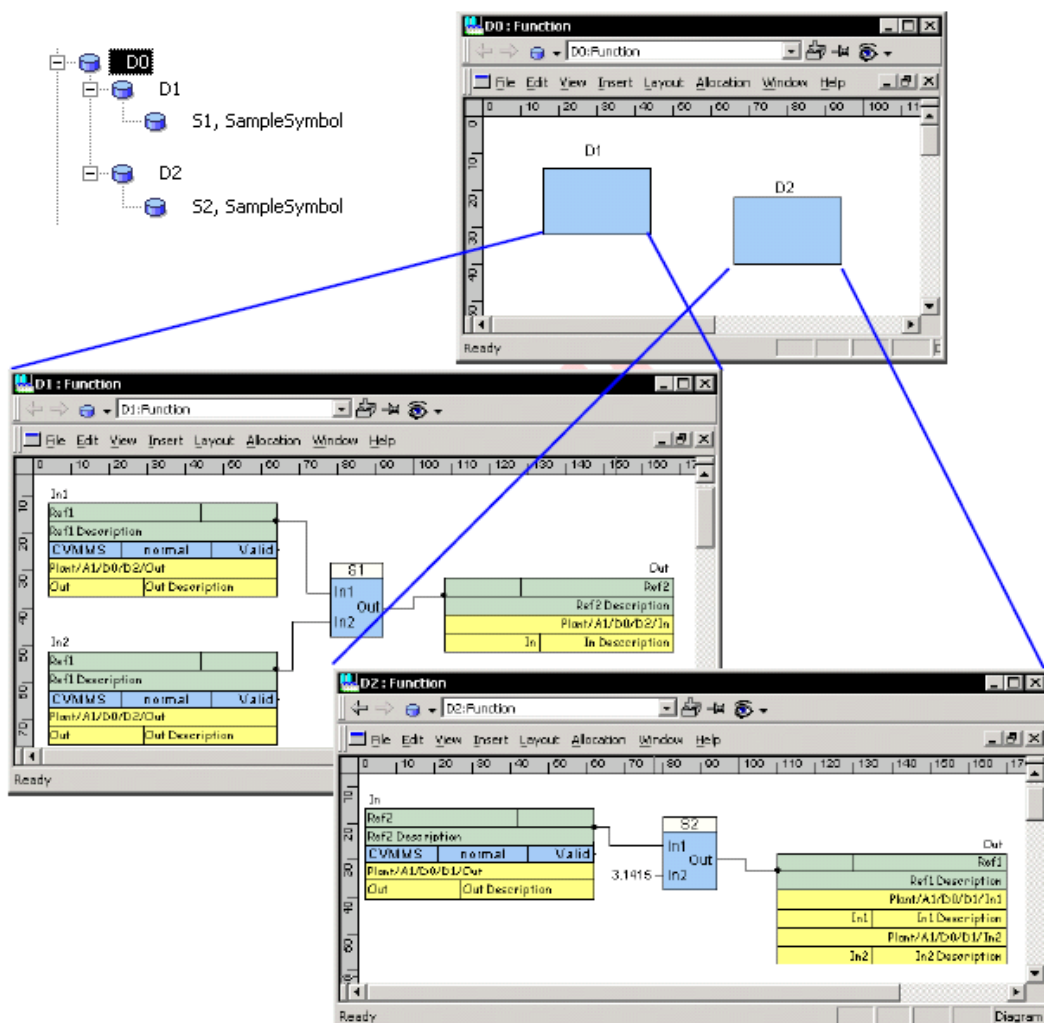

Figure 48. Referenced Diagrams
User can include diagram references to diagrams in Functional Structure only. They are not supported by diagram types in Object Type Structure. In Figure 48, we have an overview diagram D0 and two diagrams D1 and D2 with (off-) diagram references. D1:Out is connected to D2:In, and D2:Out is connected to D1:In1 and D1:In2. This is indicated by automatically calculated cross-references in D1 and
D2. The blue colored field available in the diagram reference symbol as shown in Figure 48, indicates that communication is established between the referenced diagrams.
8. The diagram reference is connected to that diagram variable. Cross References are automatically updated in the diagram as shown in Figure 48. The datatype of the Valid bit present in a diagram reference used for cross communication is dword. When a proper communication is established, the value of this bit is 192.